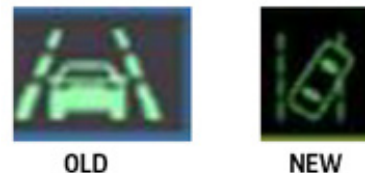

Figure 11
- i. Icon changed for lateral control (LCA / LDW / LKA / ALK) (Figure 11)